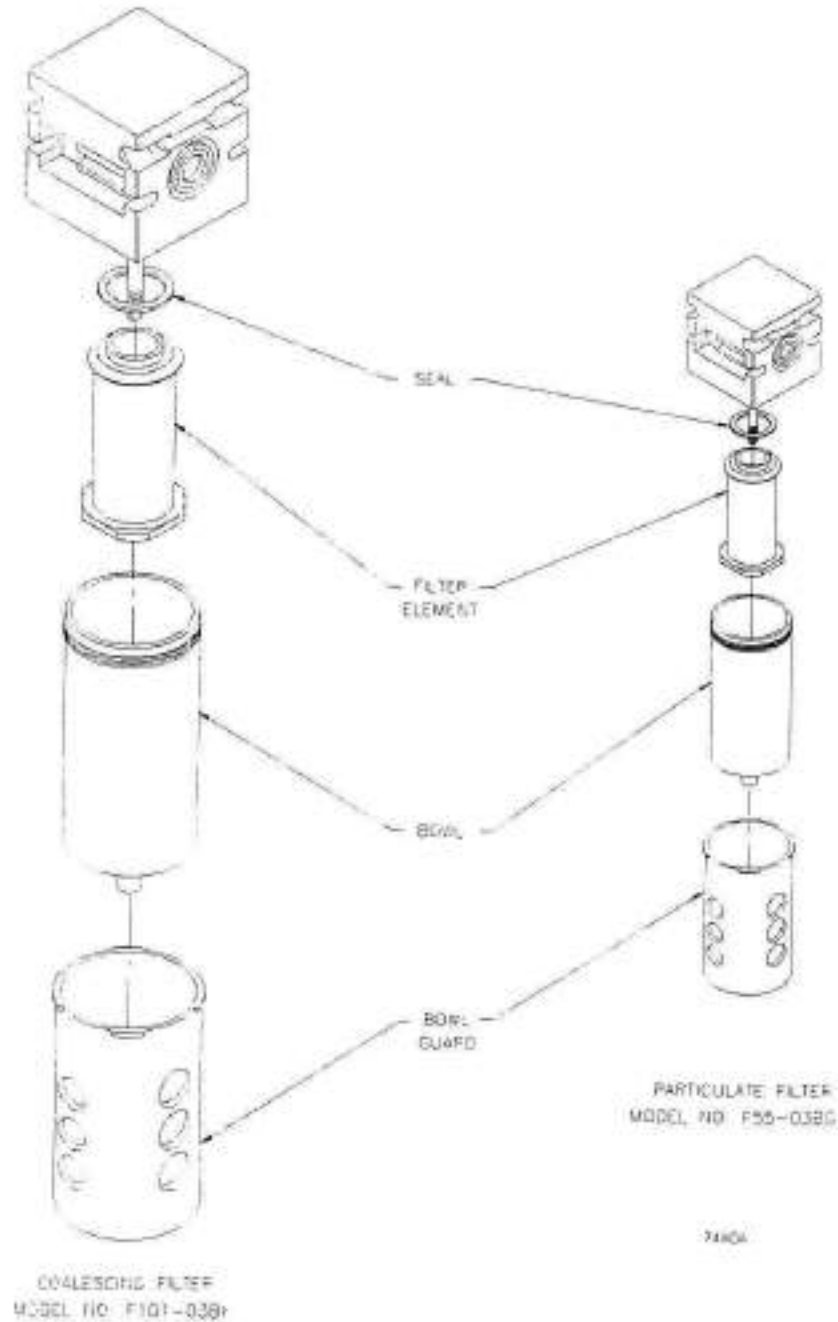

Figure 5-3. Air Filter Element Replacement
4. Press the tab button at the top front of the perforated regulator bowl guard (see Figure 5-3), turn one quarter turn counterclockwise, pull down and away from its cap mount, and remove the guard.